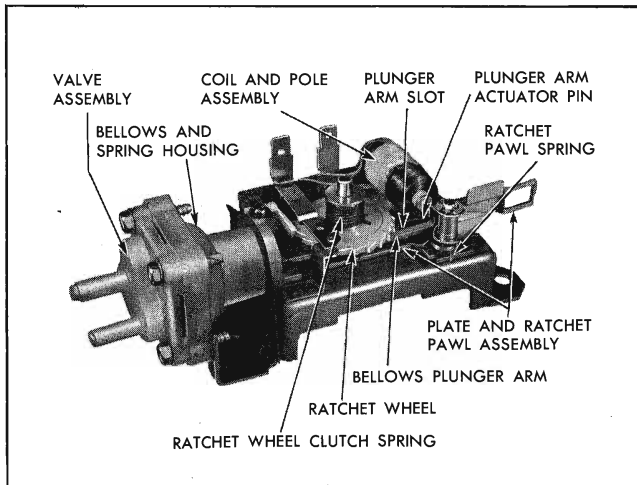

Fig. 11-114 Washer Pump Mechanism
which is attached to the pumping bellows, is held in a retracted position (spring compressed) by an eccentric on the ratchet wheel when the pump is idling (Fig. 11-114).
2. If relay and ratchet pawl perform correctly in Step 1, manually rotate the 3 lobe cam one lobe in a clockwise direction (looking at the cam). Observe if relay holding contacts close and the pump plunger arm is released from its lock-out position. Fig. 11-114 shows plunger arm in lock-out position.
4. If pump performs correctly in Step 3, continue to manually rotate the 3 lobe cam until the ratchet wheel has been turned through 360° or 21 teeth. After the ratchet wheel has been rotated 21 teeth, the holding contacts should be opened by a "hump" on the wheel and the pump plunger arm should be in the "lock-out" position (Fig. 11-114).